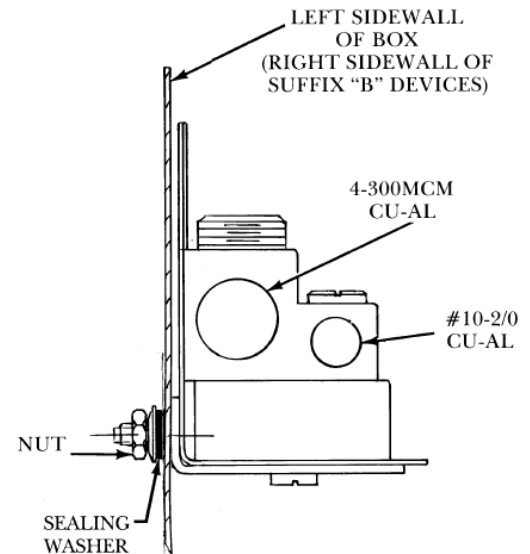

Figure 2 – Typical Installation of TNI64C Neutral Kit
Step 2. Mount neutral block to enclosure as shown in Figure 2. Torque fasteners to 20-24 in-lbs.